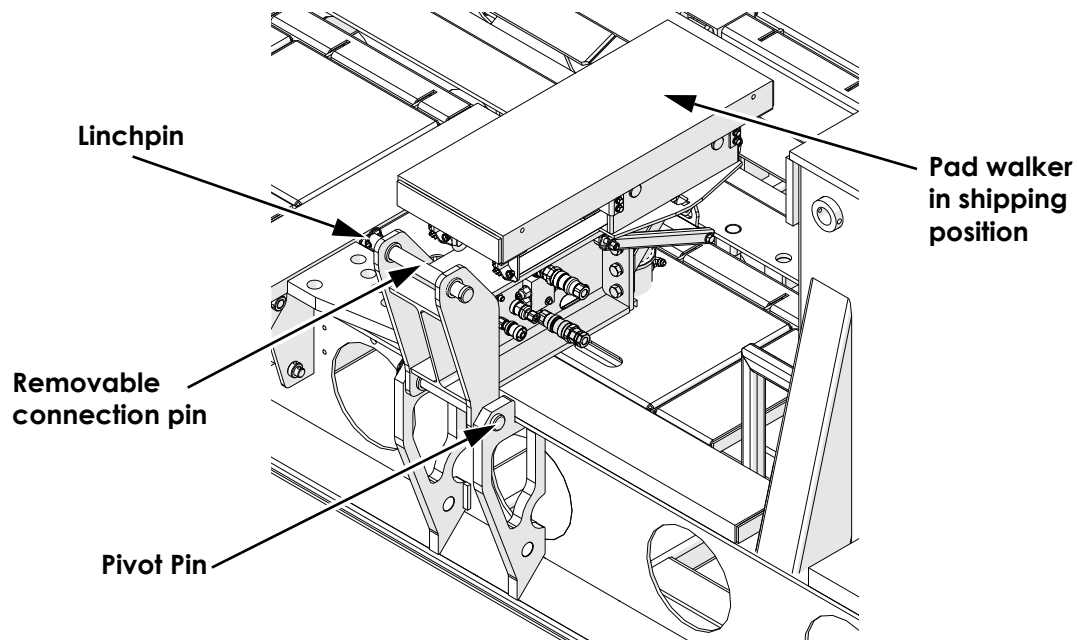

Figure 1: Pad walker in shipping position
3. Remove the linchpin and connection pin (see Figure 1).
3. Hoist the end of the pad walker and gently lower it into the shipping position. See Figure 1 on page 1.